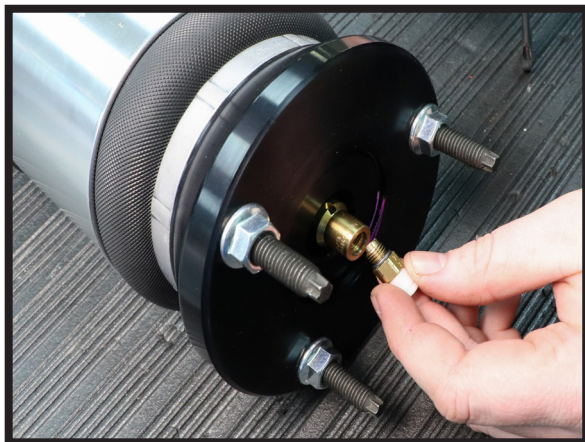

FIGURE 20
1. INSTALL THE VOSS FITTING FROM THE PROVIDED ACCESSORY KIT ON TO THE NEW ARNOTT AIR STRUT AND SNUG TIGHT WITH A WRENCH. REMOVE THE SHIPPING PIN. (FIGURES 20, 21, 22)